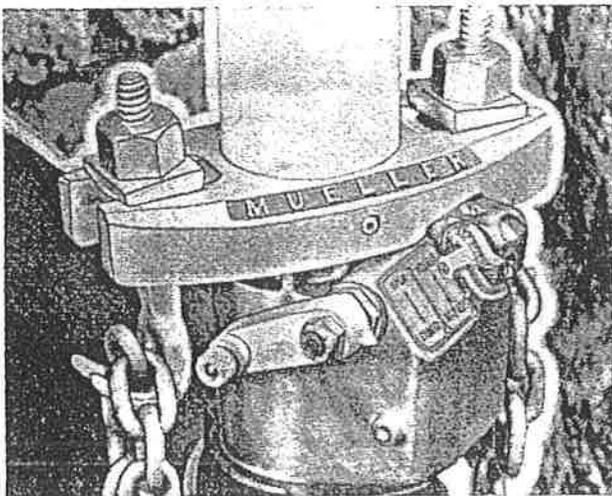

FIGURE 16
4. With the boring bar in its uppermost position, close flop valve by loosening handle screw (if lever handle was locked open) and raising upward on lever handle. If machine is being operated on low pressure, it is advisable to retain flop valve in closed position by use of handle screw on lever handle. The handle screw in lever handle is tightened against wedge on side of body. FIGURE 16.